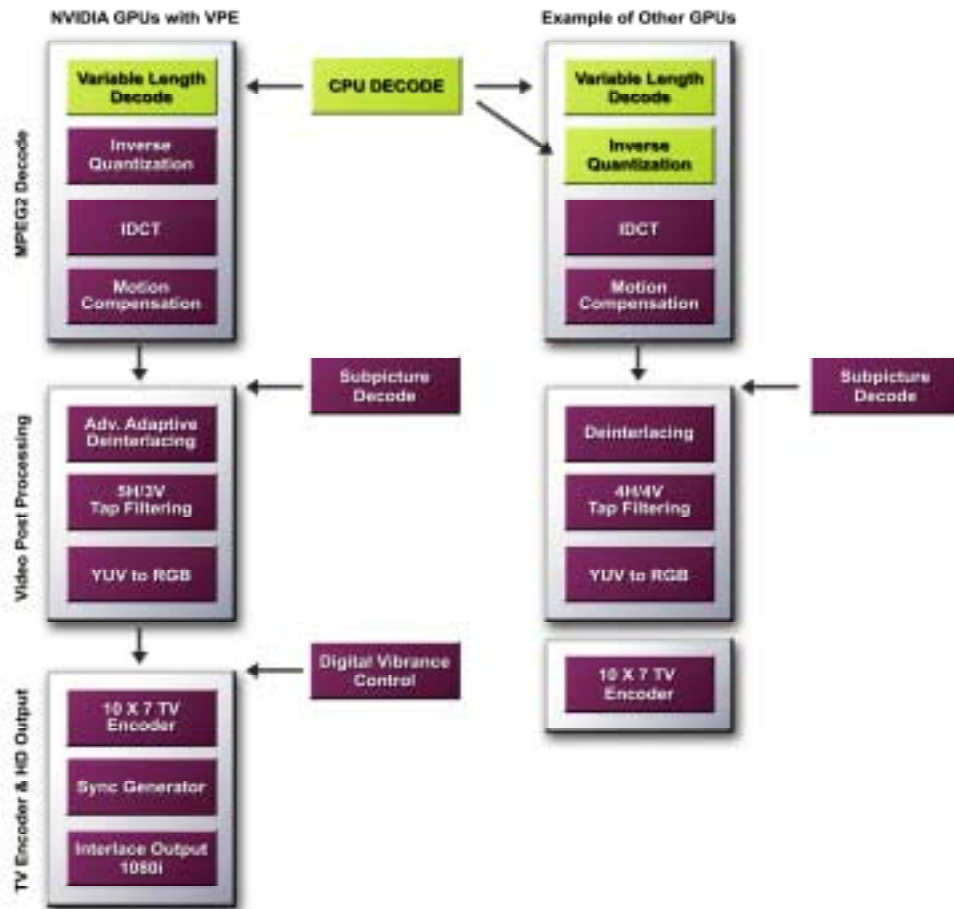

Figure 1. NVIDIA GPUs with VPE (vs. other GPUs)
NVIDIA's VPE handles video decoding using hardware that implements the industry's standard **MPEG2 decode algorithm** (Figure 1), which includes inverse quantization (IQ), inverse discrete cosine transform (IDCT), motion compensation, color space conversion (CSC) functions, as well as hardware subpicture alpha blending.